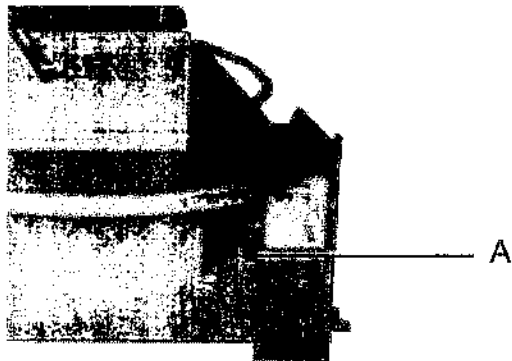

Fig. 27
6. Press down the red spot (A - Fig. 27) on the lock plate of the spray gun locker to open the door.